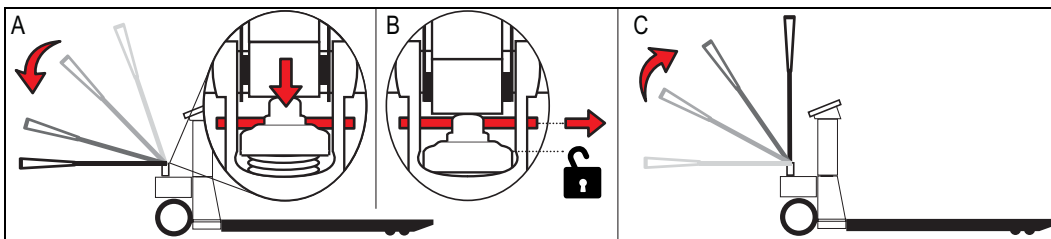

Figure 5. Unlocking the Lift Pump
8. Lower the handlebar and hold down to maintain pressure on the lift pump (Figure 5-A).
9. Remove retainer pin locking down the lift pump from the steering column (Figure 5-B).
10. Return the handlebar back to the upright position (Figure 5-C).